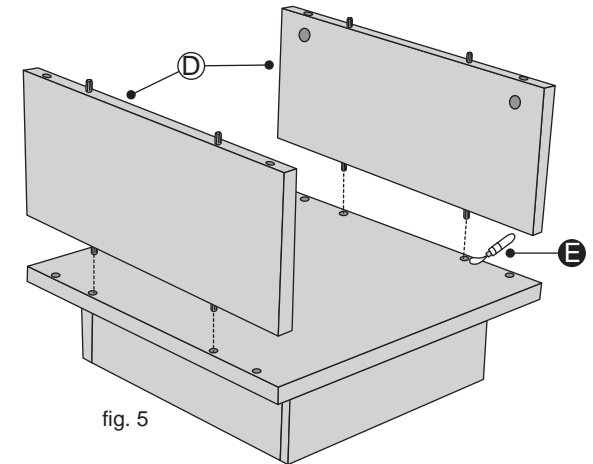

fig. 5
2. Place a small amount of Glue **E** into the dowel holes and onto the joints surfaces. Fix the Table Side Panels **D** onto the unit. See fig. 5.